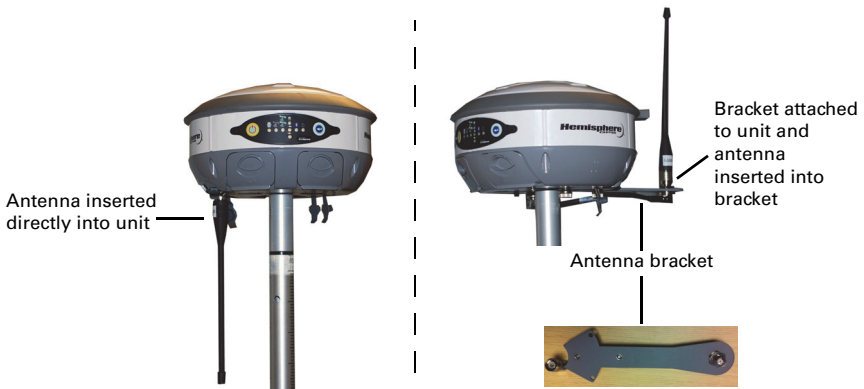

Figure 2-2: Antenna installation options
- Attaching the antenna directly to the antenna port on the bottom of the unit with the antenna vertical and pointing downward (left photo in Figure 2-2)
- Attaching the antenna bracket to the unit and then attaching the antenna to the port at the end of the bracket with the antenna vertical and pointing upward (right photo in Figure 2-2)